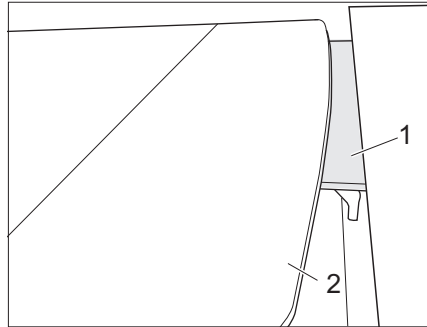
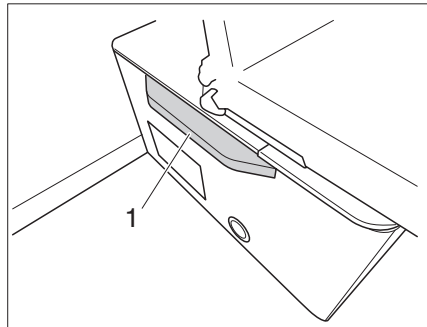

Fig. 76 Lowering the table onto the support edge
Fig. 77 Lowering the table onto the extender
- ▶ Swivel the table-top (Fig. 76,2) down onto the support edge (Fig. 76,1) or set down on the extender (Fig. 77,1) intended for this purpose.